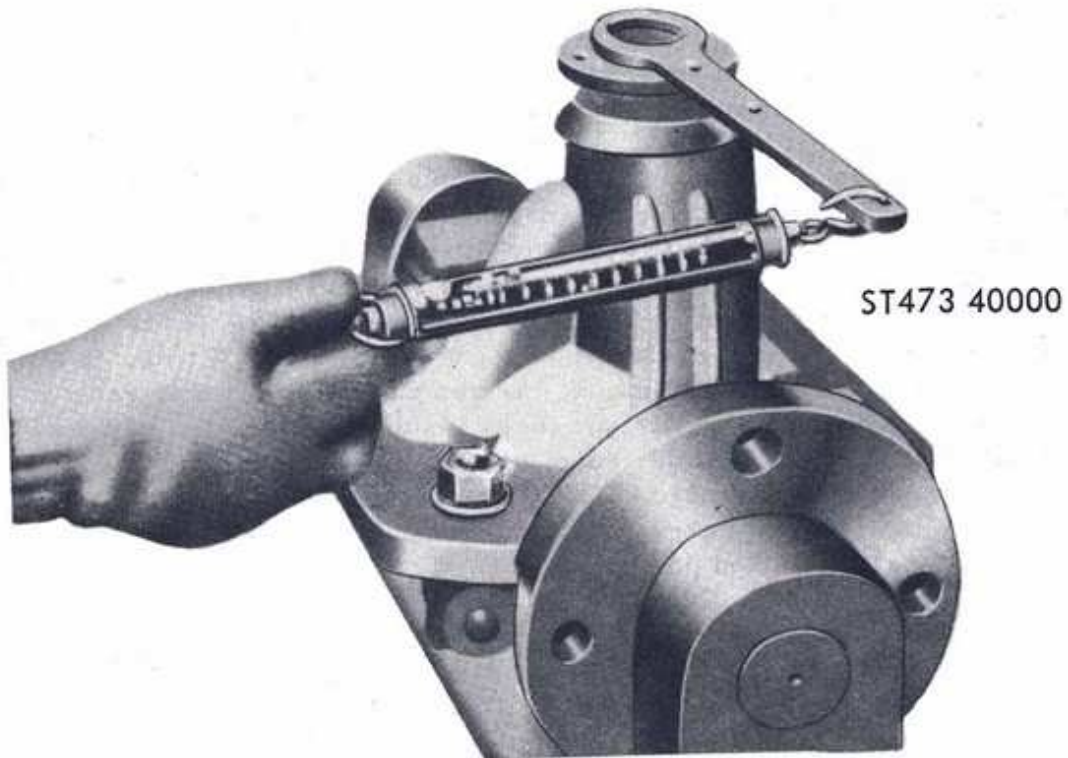

Fig. 11
- (5) The formal adjustment of the drive pinion, bearing and pre-load. After the fixing position of drive pinion is decided as mentioned in the previous paragraph, take off the pinion nut & companion flange to mount again the drive pinion bearing spacer (distance piece) and nut. Tighten up the nut as Fig. 11 by using torque wrench at the regular torque of 100-120ft./per lbs. The preload supportedly the bearing in this case is different according to the condition of the bearing adjusting shim inserted. The more of the shim inserted, much the play of pinion to the direction of axle is increased. The less of the shim inserted, the more the bearing tightened by the previously mentioned nuts and cause it to be burned if left and turned as it is.